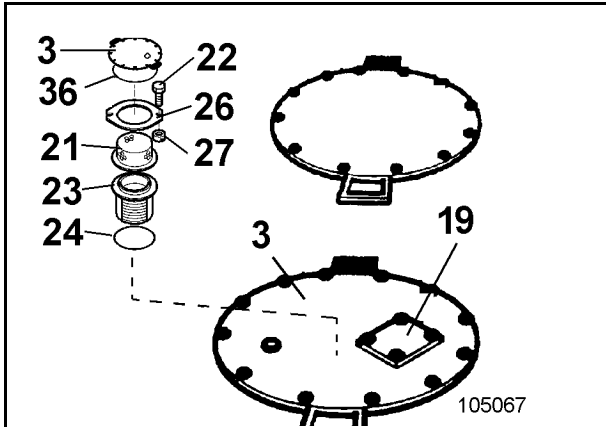

Fig. 3-80:
- Remove cover (3, Fig. 3-80:) together with sealing ring (36).
- Unscrew screws (22). Withdraw bypass valve.
- Take off screen (23) together with sealing ring and clean in white spirit or paraffin oil. Replace, if required.
- Check sealing ring (24) for damage and replace, if required.
- Insert bypass valve and fasten with screws (22).
- Re-assemble the bypass valve with a new screen (23, Fig. 3-80:) and a new sealing ring.
- Insert bypass valve with new sealing ring (24) and fasten with screws (22).